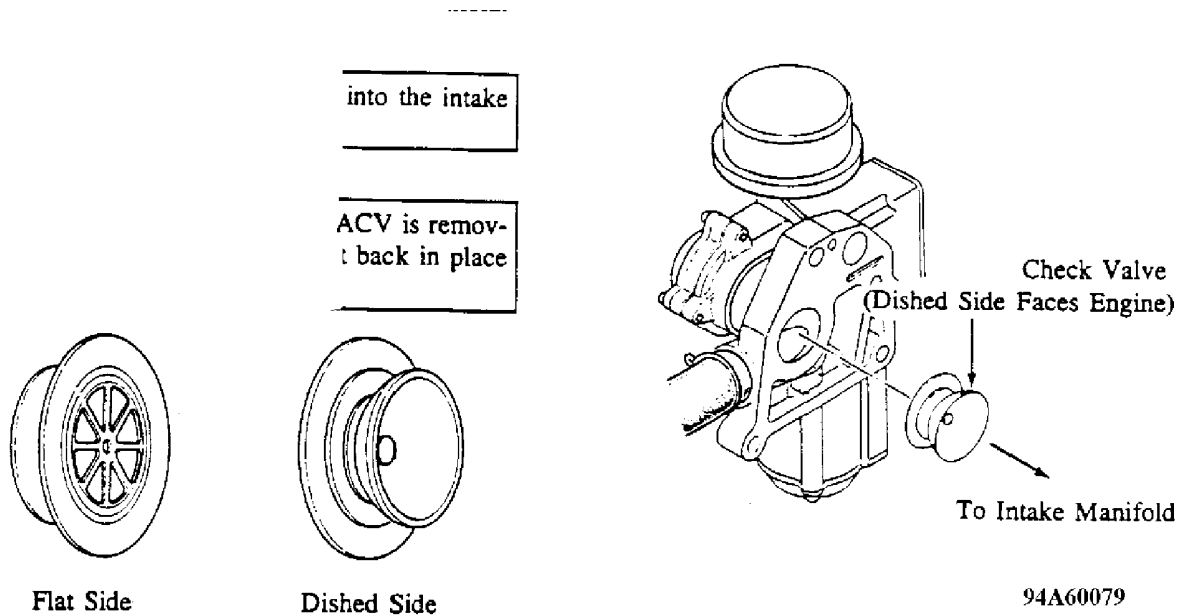

Fig. 13: Check Valve Position and Orientation
**NOTE:** The check valve may fall out when ACV is removed. Be sure to retrieve and set back in place before re-installing ACV. See Fig. 13.